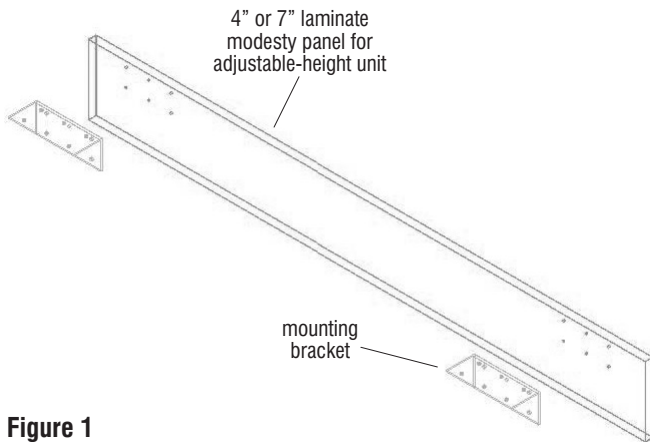

Figure 1
1. Align the mounting holes of the bracket with the pre-drilled holes on the back of the panel and secure using three #10 x $\frac{5}{8}$ \" Phillips pan head screws per bracket. Repeat this step to secure the remaining mounting brackets to the modesty panel (Figure 1).